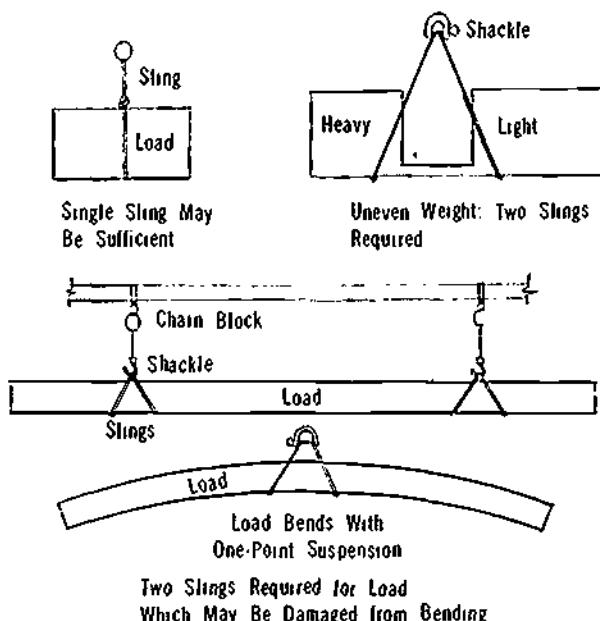

Figure 2-8. Correct Use of Slings
a) An evenly shaped load can often be safely lifted with one sling, but if the load is uneven in dimensions or weight it will require at least two. A long load that may be damaged by bending will require two chain blocks or come-alongs, as illustrated in Figure 2-8.